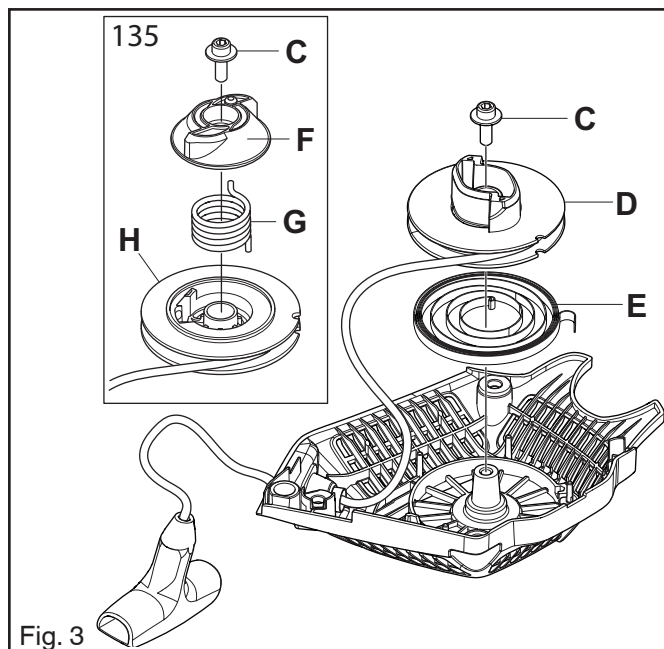

Fig. 3
130: Place the starter pulley against the spring (E) and attach the screw (C). See Figure 3.
135: Place the pulley (H) against the spring (E). Put the spring (G) in the pulley. Put the pulley (F) over the spring and attach the screw (C). See Figure 3.